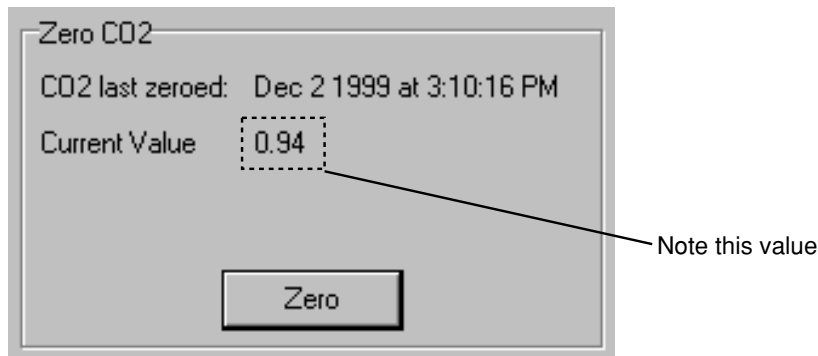

Figure 4-2. Note value of Z_{CO_2} , shown as Current Value.
5. Observe the CO₂ concentration and wait for it to stabilize (typically 1 minute). Also, note the present value of Z_{CO} (Figure 4-2).
6. When the reading has stabilized, click **Zero** to set the CO₂ zero. After a brief delay, the displayed CO₂ value should be fluctuating around zero. Check the resultant value of Z_{CO_2} shown on the *Zero CO₂* page (Figure 4-2). It should be near 1 (typically between 0.85 and 1.1). This value will steadily increase as the internal chemicals lose effectiveness.